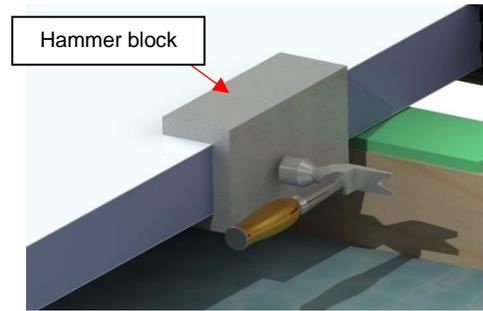

Figure 74
27) Use the hammer block to ensure the panel is fully engaged in the I-beam. Gently strike the **center** of the block and ensure the block is continuously in contact with the panel edge (Figure 74). Strike the hammer block on each side of the panel for a better fit on the panel (Figure 74).
- ♦ Ensure the hammer block is properly fitted to the foam panel before striking. Failure to use the hammer block properly could break the lamination of the fiberglass panel (Figure 74).
30) Use the hammer block to ensure the panel is fully engaged in the I-beam. Gently strike the **center** of the block and ensure the block is continuously in contact with the panel edge. (Figure 74)